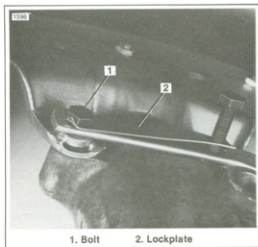

Figure 2-122. Front Fender Replacement
3. See Figure 2-122. Remove the bolts and lockplates securing the original fender. Discard the lockplates.
8. Carefully mount the new fender using the bolts removed in Step 2 and new lockplates. Tighten the bolts to 20 ft-lbs torque and bend the edge of the lockplate against the bolt head flats as shown in Figure 2-122.